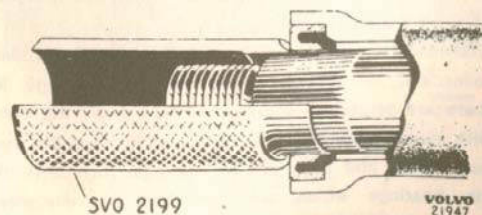

Fig. 6-28. Fitting the pitman arm shaft
6. Apply sleeve SVO 2199 as shown in Fig. 6-28 and fit the pitman arm shaft in the steering box. Lubricate the adjusting screw in the pitman arm shaft with a few drops of oil.